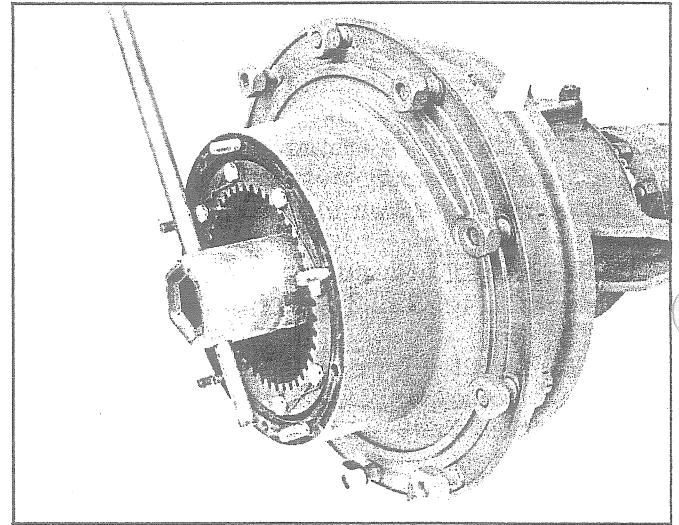

Fig. 32 - Tool Used to Tighten Spindle Nuts
26. Thread inner nut to spindle and tighten inner nut using special tool (see Fig. 32.) while rotating wheel hub in both directions until there is a slight drag.